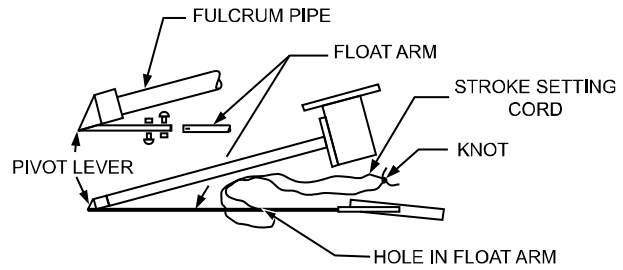

Figure 2
4.3 Attach the float arm to the pivot lever using the two bolts furnished. Insert the stroke setting cord through hole in float arm, then through hole in the nipple plug and knot ends together. (NOTE: Sealing plug must be removed during this procedure. PLUG MUST BE RE-INSTALLED UPON COMPLETION OF INSTALLATION.) (See Figs. 2 & 2A).